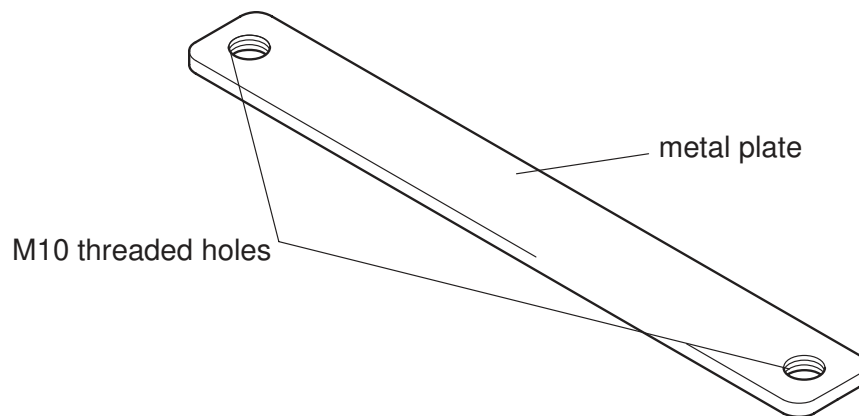

Fig. 6
(d) Fig. 6 shows details of the metal plate.
- (i) Use notes and sketches to describe the stages in marking out and shaping the radius on a corner of the metal plate shown in Fig. 6. [4]
- (ii) Use notes and sketches to describe the stages in making the threaded holes in the metal plate shown in Fig. 6. [4]